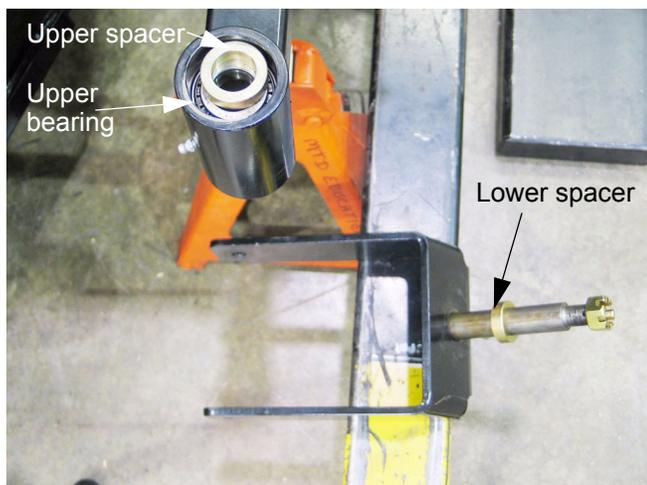

Figure 27.9
- 27.9. The caster yoke can be pushed-out of the bearings with hand force or driven using a soft hammer or drift. See Figure 27.9.